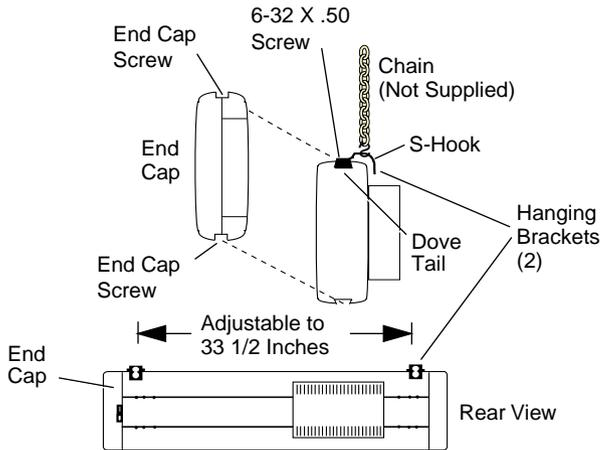

Figure 3-2. Large AlphaLert Sign Ceiling Suspension Installation Diagram
1. Remove one end cap by removing the top and bottom screws holding the end cap in place as shown in Figure 3-2.